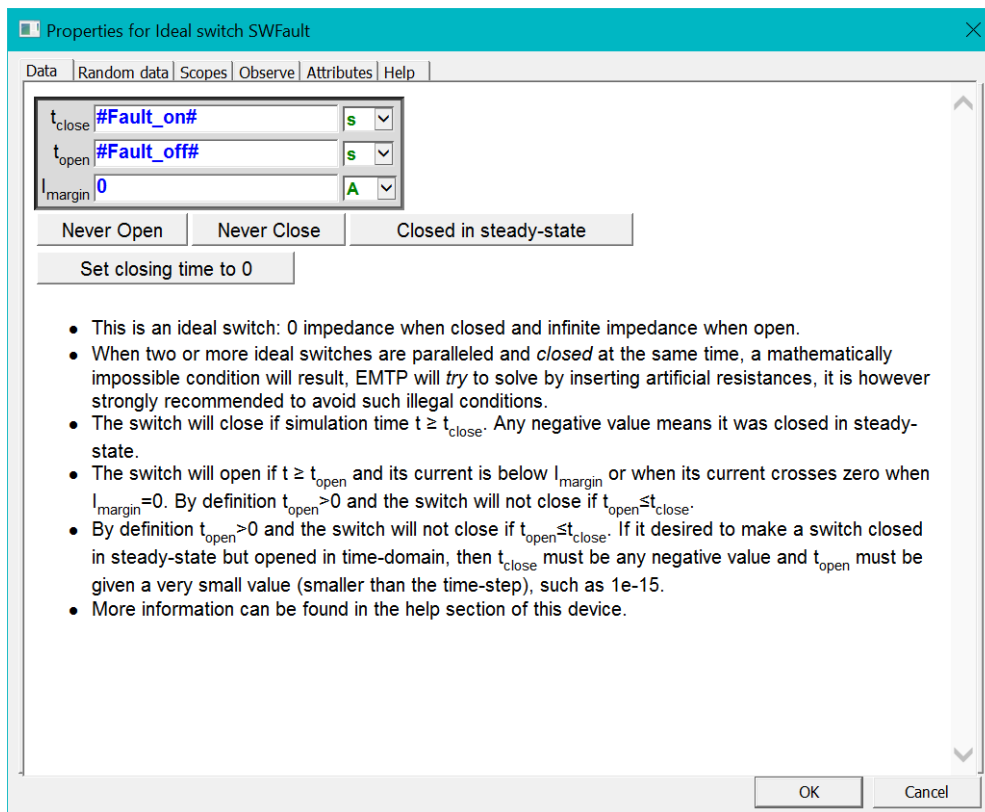

Figure 8 SWFault data for Figure 5
- ❑ The device data web of SWFault is shown in Figure 8. The variable Rfault is transmitted to both Fault_resistance and Rfault2.